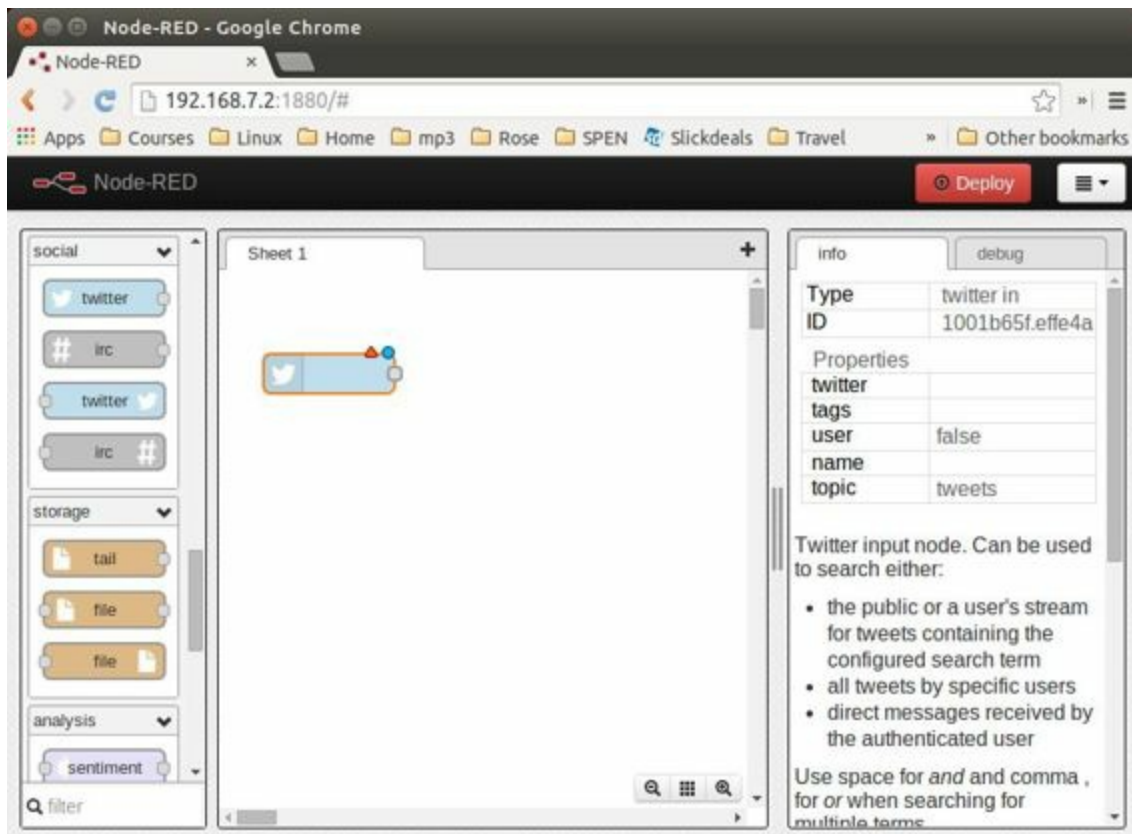

Figure 6-8. Node-RED twitter node
2. Drag the `twitter` node to the canvas, as shown in Figure 6-8.